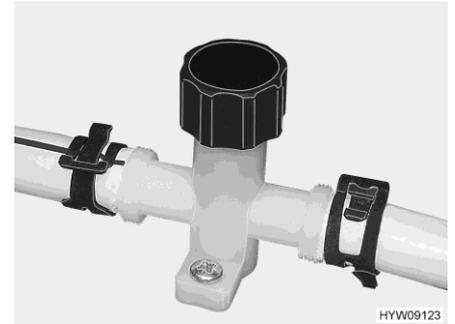

Fig. 102 Drain cock (water pipe)
- Open all drain cocks (Fig. 102).